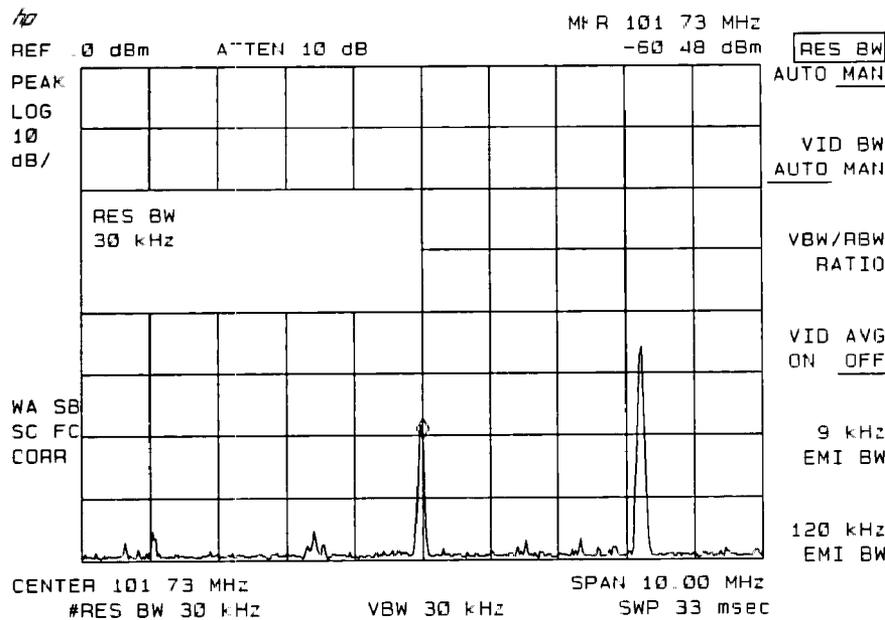

Figure 6-17. Decreasing Resolution Bandwidth
2. Press **BW**, **▼**. The low-level signal appears more clearly because the noise level is reduced. See Figure 6-17.